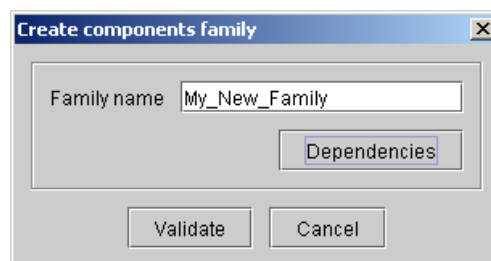

Figure 50: Family name and dependencies
- ◆ Enter the name of the new family in the dialog box (Figure 50)